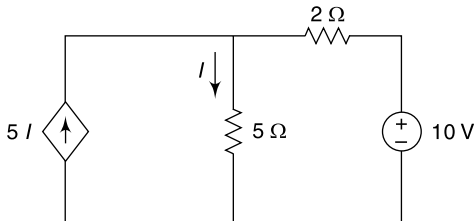

Fig. 4.159 Circuit of Ex. 4.128
4.128 In the circuit shown in Fig. 4.159, find I .
We redraw the circuit with arbitrary current distribution and node number [Fig. 4.159(a)]